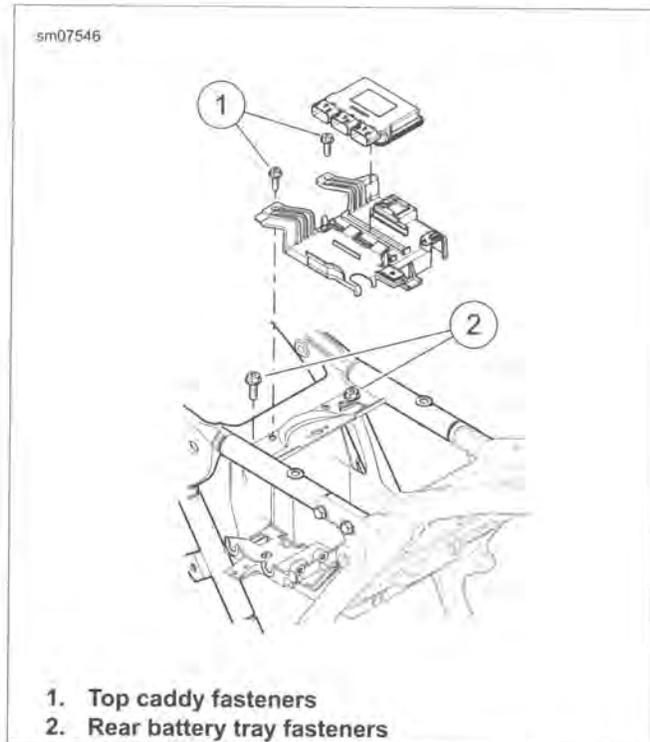

Figure 2-166. Upper Caddy Fasteners
8. See Figure 2-166. Remove two rear battery tray fasteners (2).
4. See Figure 2-166. Secure upper battery tray to rear frame. Tighten to 72-96 **in-lbs** (8.1-10.8 Nm).
10. See Figure 2-166. Install top caddy. Tighten to 72-96 **in-lbs** (8.1-10.8 Nm).